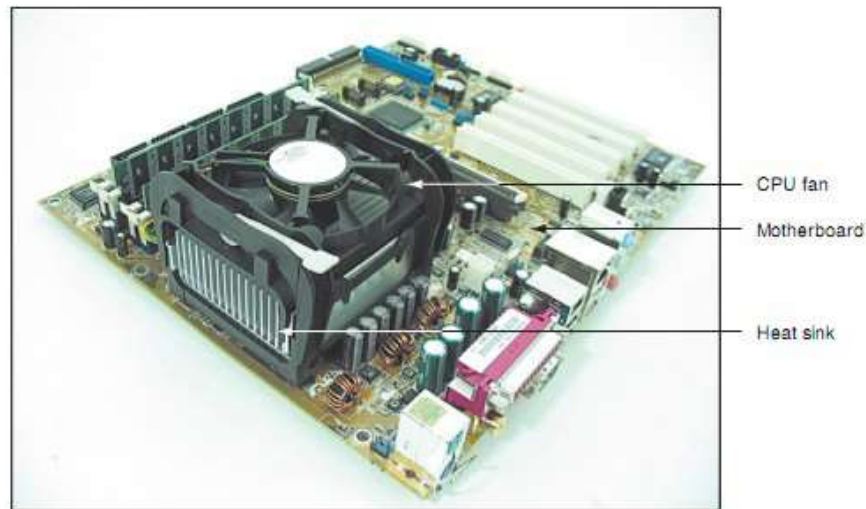

Figure 3
2. Look at Figure 3 above; you will study the components of a processor. We will see ALU as the first component.